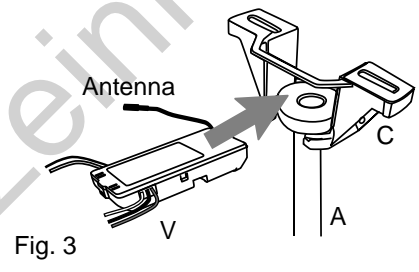

Fig. 3
3. Gently slide remote control receiver (V), flat side up, into mounting bracket (C). Turn spliced/taped wires upward and gently push wires and wire connectors (Q) into outlet box. Let antenna from receiver (V) hang to the side. [Fig. 3]